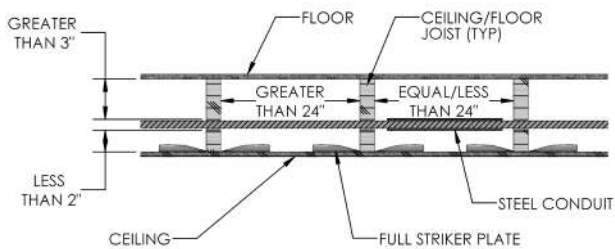
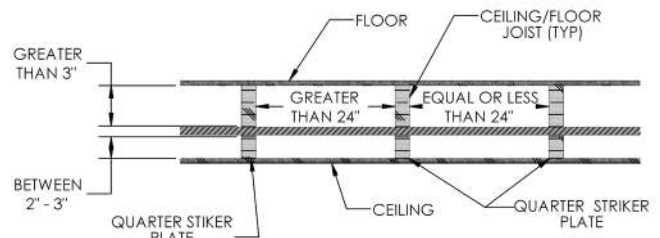

FIGURE 4.7
FIGURE 4.8
- B. At concealed support points and points of penetration within 2 to 3 inches from any stud, joist, plate, etc., listed quarter striker plates are required at the area of support. Figure 4.7 and Figure 4.8 show proper means of protection for this type of installation.